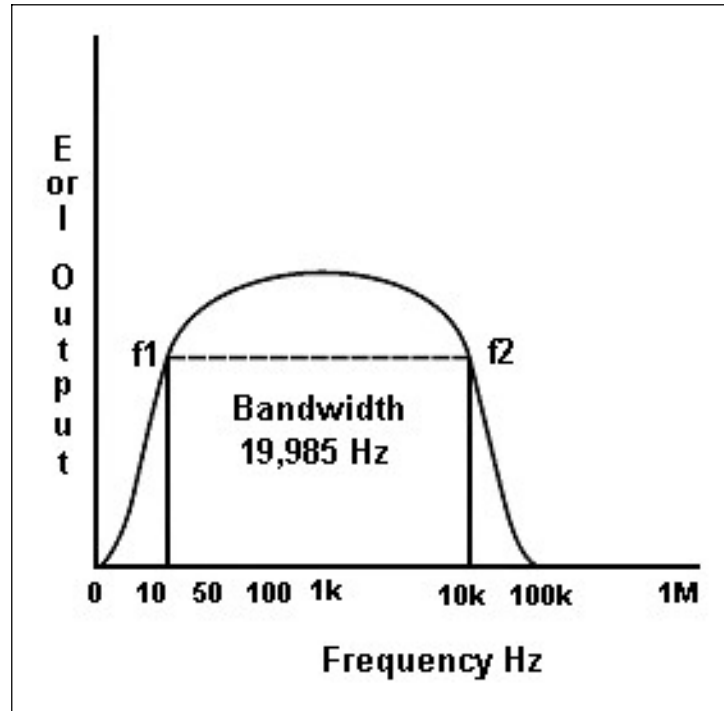
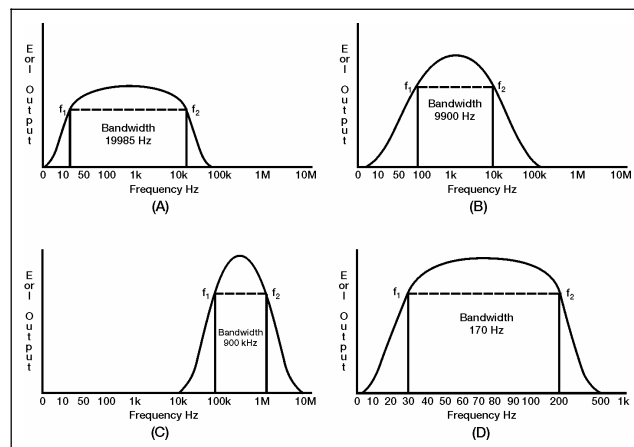

Figure 6-1. Frequency-response Curve of Audio Amplifier
Figure 6-2. Frequency-response Curves
6-7. Figure 6-1 shows a frequency-response curve. This is the frequency-response curve for an audio amplifier as described in chapter 5. It is “flat” from 15 Hz to 20 KHz. Also notice that the lower frequency limit is labeled f_1 and the upper frequency limit is labeled f_2 . Notice also the portion inside the frequency-response curve marked “BANDWIDTH.”
6-8. The bandwidth represents the amount or “width” of frequencies, or the “band of frequencies,” that the amplifier is most effective in amplifying. However, the bandwidth is not the same as the band of frequencies that is amplified. The bandwidth of an amplifier is the difference between the frequency limits of the amplifier. For example, the band of frequencies for an amplifier may be from 10 KHz to 30 KHz. In this case, the bandwidth would be 20 KHz. As another example, if an amplifier is designed to amplify frequencies between 15 Hz and 20 KHz, the bandwidth will be equal to 20 KHz minus 15 Hz or 19,985 Hz (see Figure 6-1). The following shows how to compute bandwidth:
6-9. Also notice in Figure 6-1 that the frequency-response curve shows output voltage (or current) against frequency. The lower and upper frequency limits (f_1 and f_2) are also known as HALF-POWER POINTS. The half-power points are the points at which the output voltage (or current) is 70.7 percent of the maximum output voltage (or current). Any frequency that produces less than 70.7 percent of the maximum output voltage (or current) is outside the bandwidth and, in most cases, is not considered a usable output of the amplifier. The reason these points are called “half-power points” is that the true output power will be half (50 percent) of the maximum true output power when the output voltage (or current) is 70.7 percent of the maximum output voltage (or current).
6-12. In Figure 6-1, the two points marked f_1 and f_2 will enable you to determine the frequency-response limits of the amplifier. In this case, the limits are 15 Hz and 20 KHz. You should now know how a frequency-response curve could enable you to determine the frequency limits and the bandwidth of an amplifier.
6-13. Figure 6-2 shows the frequency-response curves for four different amplifiers. View (A) is the same frequency-response curve as shown in Figure 6-1.
6-14. Figure 6-2, view (B) is the frequency-response curve of an amplifier that would also be classified as an audio amplifier, even though the curve is not “flat” from 15 Hz to 20 KHz. From the curve, you can see that the lower frequency limit of this amplifier (f_1) is 100 Hz. The upper frequency limit (f_2) is 10 KHz. Therefore, the bandwidth of this amplifier must be 10 KHz minus 100 Hz or 9,900 Hz. Most amplifiers will have a frequency-response curve shaped like view (B) if nothing is done to modify the frequency-response characteristics of the circuit.
6-15. Figure 6-2, view (C) shows the frequency-response curve for an RF amplifier. The frequency limits of this amplifier are 100 KHz (f_1) and 1 MHz (f_2). Therefore, the bandwidth of this amplifier is 900 KHz.
6-16. Figure 6-2, view (D) shows another audio amplifier. This time the frequency limits are 30 Hz (f_1) and 200 Hz (f_2). The bandwidth of this amplifier is only 170 Hz. The important thing to notice in this view is that the frequency scale is different from those used in other views. Any frequency scale can be used for a frequency-response curve. The scale used would be determined by what frequencies are most useful in presenting the frequency-response curve for a particular amplifier.